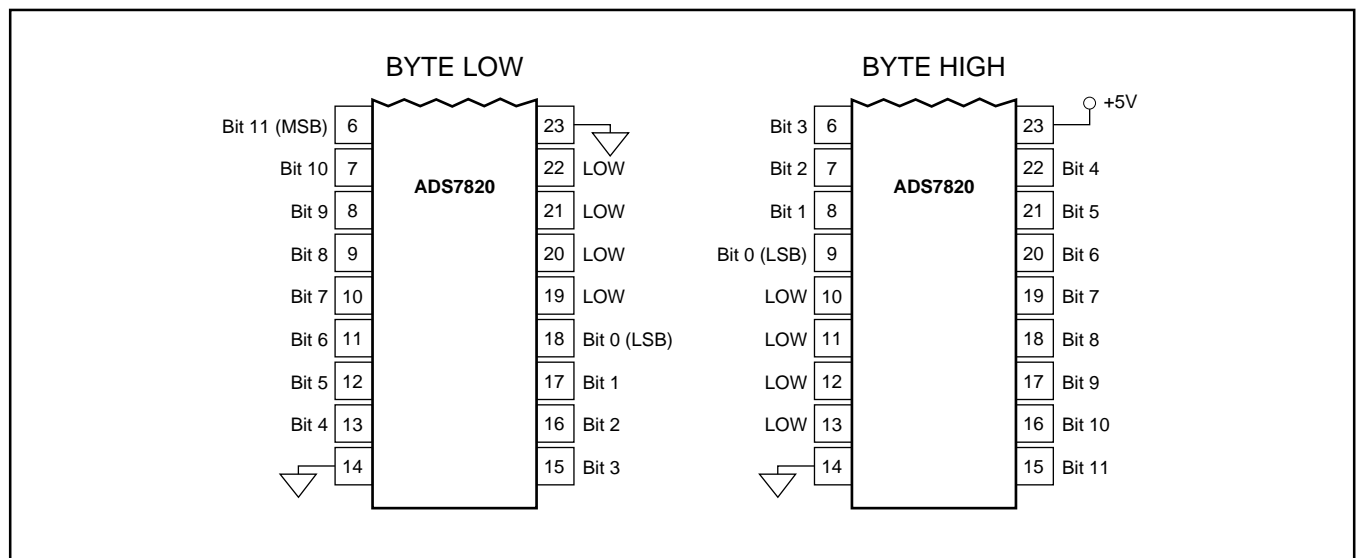

FIGURE 2. Bit Locations Relative to State of BYTE (pin 23).
NOTE: (1) See Figures 2 and 3 for constraints on data valid from conversion "n-1".
The ADS7820 outputs full or byte-reading parallel data in Straight Binary data output format. The parallel output will be active when  $\overline{R/C}$  (pin 24) is HIGH and  $\overline{CS}$  (pin 25) is LOW. Any other combination of  $\overline{CS}$  and  $\overline{R/C}$  will tri-state the parallel output. Valid conversion data can be read in a full parallel, 12-bit word or two 8-bit bytes on pins 6-13 and pins 15-22. BYTE (pin 23) can be toggled to read both bytes within one conversion cycle. Refer to Table II for ideal output codes and Figure 2 for bit locations relative to the state of BYTE.